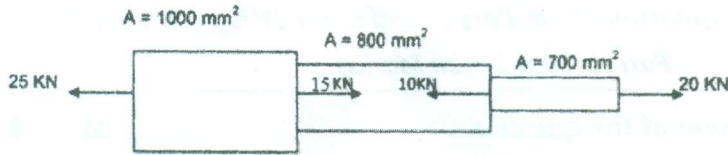

Fig 1
- b) Find the total deformation of the bars shown in fig 1. Take E is  $2 \times 10^5 \text{MPa}$ .